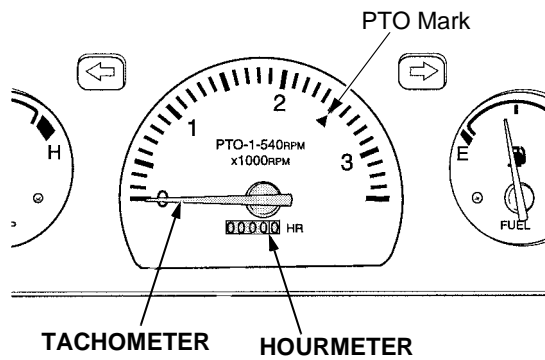

Figure 9
1. Tachometer - Indicates the engine speed in revolutions per minute (RPM). When operating PTO driven equipment, adjust the engine speed so that the tachometer needle is at the 540 PTO rpm mark, unless otherwise specified in the equipment owner's manual. See Figure 9.
2. Hour meter (In Tachometer) - This meter shows the number of hours the tractor has been operated at rated engine RPM. The right-most digit (white background) indicates tenths of an hour. Monitor the hour meter to ensure all maintenance procedures are completed according to the maintenance schedule. Refer to Figure 9.